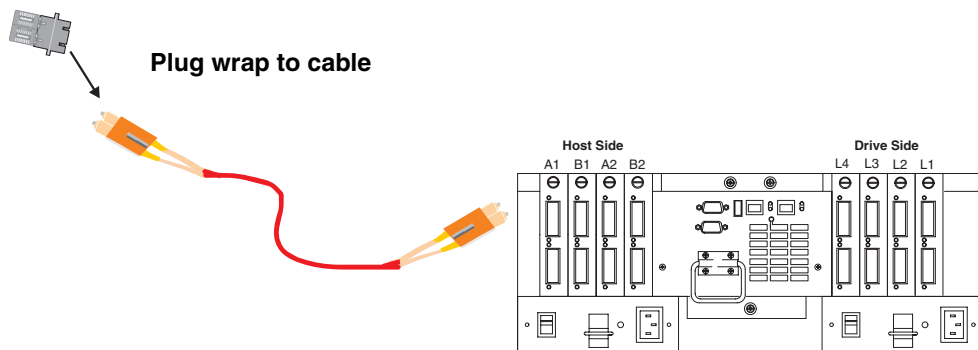

Figure 132. Install wrap plug
3. Insert the wrap plug from your kit into the female-to-female converter. See Figure 132.